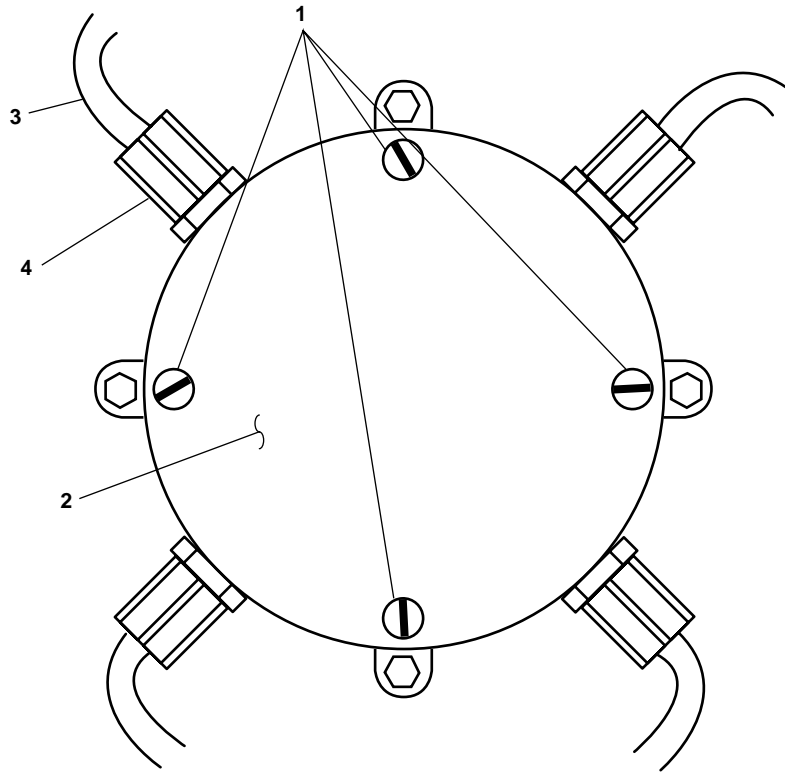
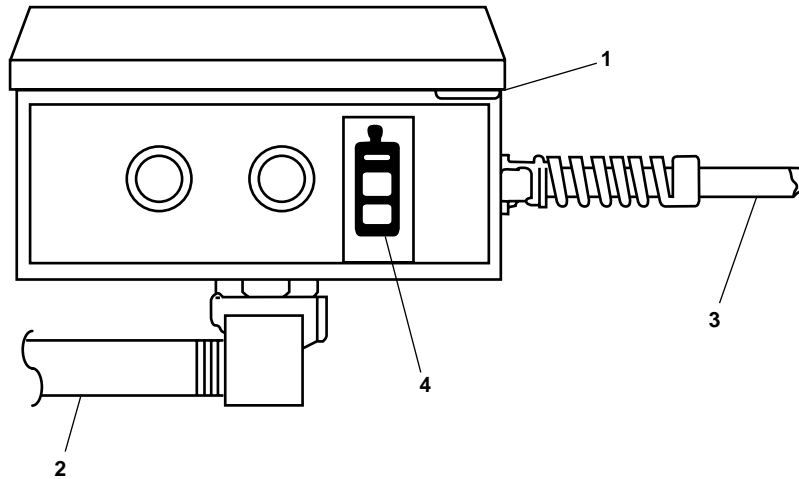

Figure 1. Junction Box
Figure 2. Automatic Drain Valve
1. Remove the four screws (figure 1, item 1) that secure the junction box cover (figure 1, item 2). Remove the cover.
3. Label and disconnect the wiring (figure 1, item 3) for the affected automatic drain. Loosen the packing gland (figure 1, item 4), and remove the wiring from the junction box.
4. Unscrew the automatic drain valve (figure 2, item 1) from its piping (figure 2, item 2). The valve's wiring (figure 2, item 3) is integral to the valve and is removed with the valve.
1. Wrap the male pipe threads of the drain valve piping (figure 2, item 2) with antiseizing tape.
2. Thread the automatic drain valve (figure 2, item 1) securely onto its piping (figure 2, item 2).
3. Route the automatic drain valve's wiring (figure 2, item 3 and figure 1, item 3) through the packing gland (figure 1, item 4) and into the junction box. Securely tighten the packing gland.
4. Connect the wiring (figure 1, item 3) inside the junction box.
5. Install the junction box cover (figure 1, item 2) and secure it with the four screws (figure 1, item 1).
9. Press the manual override switch (figure 2, item 4). Observe that the valve opens and closes normally.